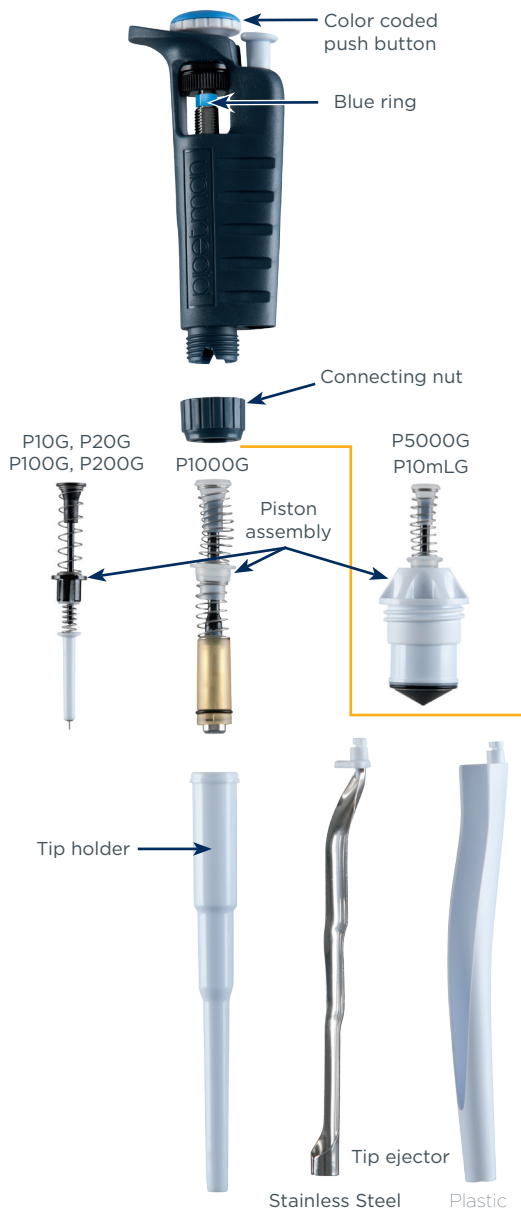

Figure 7
6. Reassemble the pipette (refer to figure 7, page 18).
6. Reassemble the pipette (refer to the figure 7, page 18).